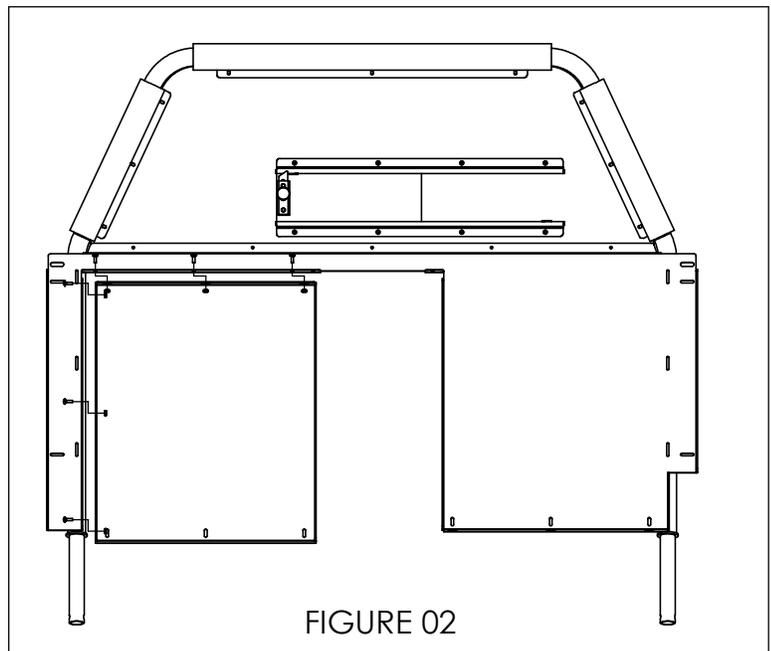

FIGURE 02
5. ATTACH THE FLAT PANEL TO THE PARTITION USING #10-32 CARRIAGE BOLTS AND KEEPER NUTS PROVIDED (FIGURE 02).